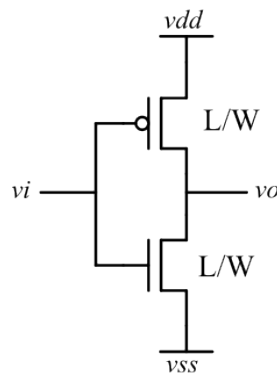
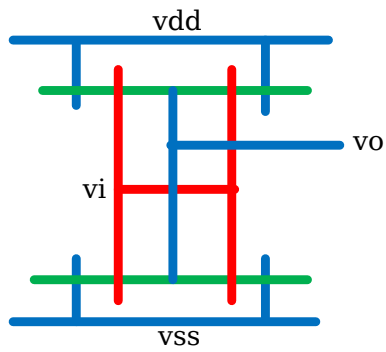
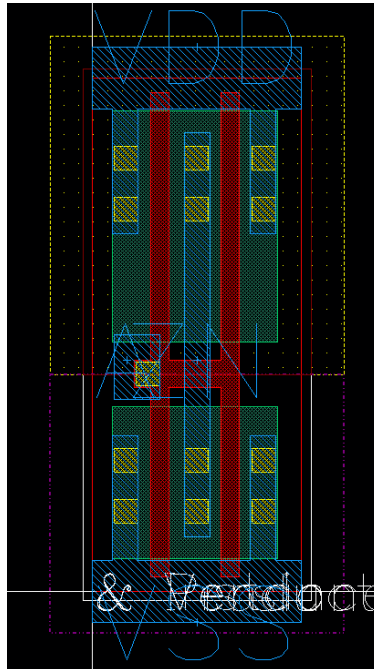

Figure 25
Figure 26
Figure 28
- a. In previous sections, students have gained experience with layout. However, the 1.4 μm standard cell height limits "wider" MOSFET usage. If the PMOS in Figure 25 has width of 0.8 μm , it would be impossible to implement in a single inverter layout.
For the layout of this inverter, it will be necessary to "break-up" the PMOS device into two 0.4 μm / 50nm FETs in parallel in order to get the equivalent width of 0.8 μm without violating the 1.4 μm standard cell height. LVS will detect FETs in parallel and "merge" them so that you can still implement your schematic with a single 0.8 μm /50nm PMOS and 0.3 μm /50nm NMOS device as illustrated in Figure 25. The stick diagrams in Figures 26 and 27 show two examples for how to layout a double-fingered inverter.
Compare the layout in Figure 28 to Figures 26 and 27 to answer the following questions:
1. Find only one error in these two figures (Figures 26 and 27).
2. Which implementation, Figure 26 or 27, is used in the standard inverter cell? Why is this implementation preferred by the standard library?